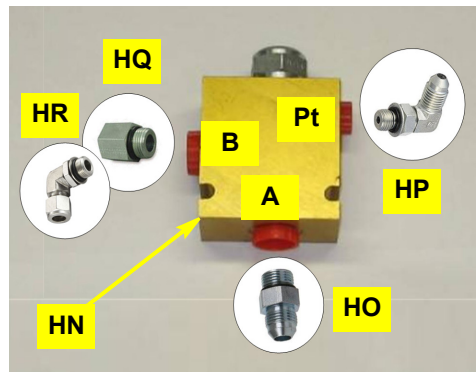
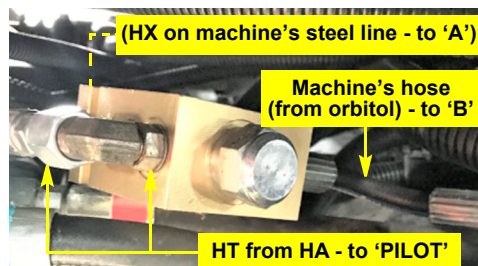

Figure 4a: Load sense valve port fittings
Figure 4e: DLSV connections
a. Prepare load sense valve **HN** by installing adapter fittings as follows (Figure 4a):
- **HO** in the source port (A)
- **HQ** in the function port (B)
c. Reconnect the hose (it's from the orbitol) to **HR** in **HN**'s 'B' port - Figure 4e).
d. Install short hose **HX** between the disconnected steel line and **HO** in **HN**'s 'A' port (Figure 4e).
e. Connect **HT** from **HA**'s LS port (Figure 4e) to **HP** in **HN**'s 'PILOT' port ('Pt' in Figure 4a).